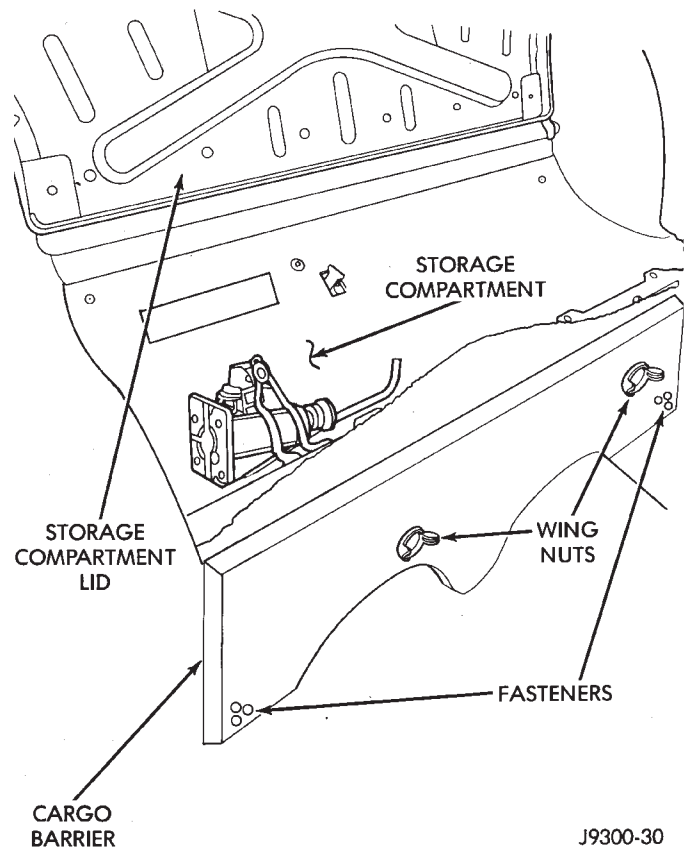

Fig. 164 Cargo Barrier
(1) Tilt both seats forward and raise the storage compartment lid.
(2) Remove the wing nuts from the front side of the cargo barrier (Fig. 164).